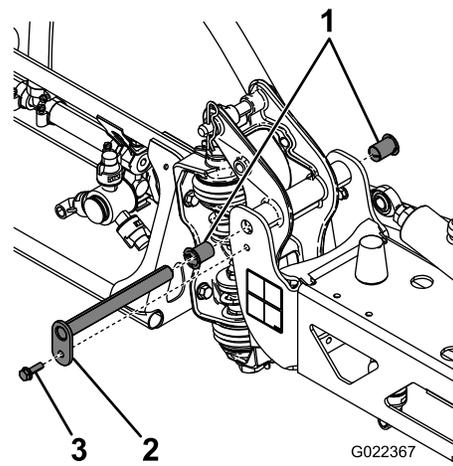

Figure 41
3. With the weight of the boom supported, remove the bolt and nut securing the pivot pin to the boom assembly (Figure 41).
6. Remove and inspect the nylon bushings from the front and back sides of the pivot bracket (Figure 41).
8. Install the boom and pivot bracket assembly into the center frame, aligning the openings (Figure 41).